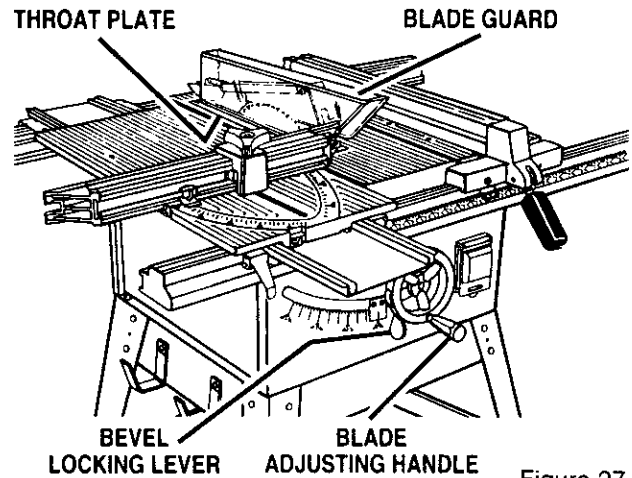

Figure 27
- Raise the blade guard. See figure 27, overview of saw.